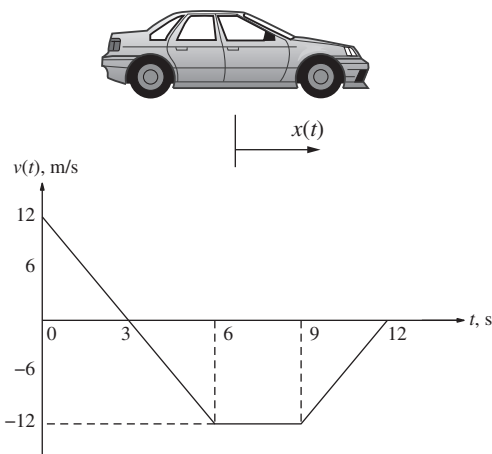

Figure P9.21 Velocity profile of a vehicle.
- 9-21.** The velocity profile of a vehicle is given in Fig. P9.21. If the initial position of the vehicle is $x(0) = 18$ m, use your knowledge of both derivatives and integrals to plot the position $x(t)$. Clearly indicate the maximum, minimum and final positions on your graph.